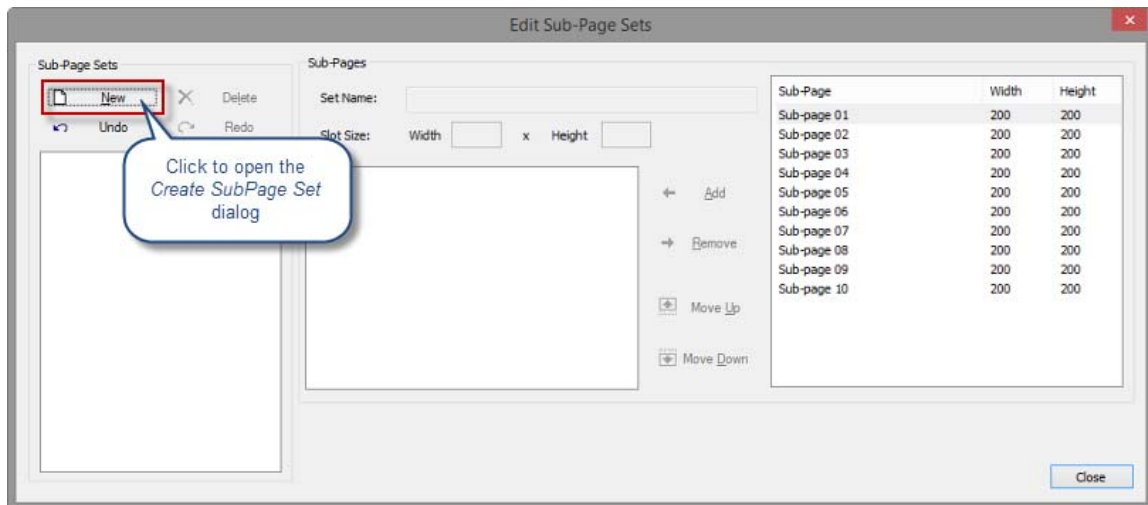

FIG. 93 Edit Sub Page Sets dialog - New
1. Select **Panel > Edit Sub-Page Sets** to open the *Edit Sub-Page Sets* dialog (FIG. 93):